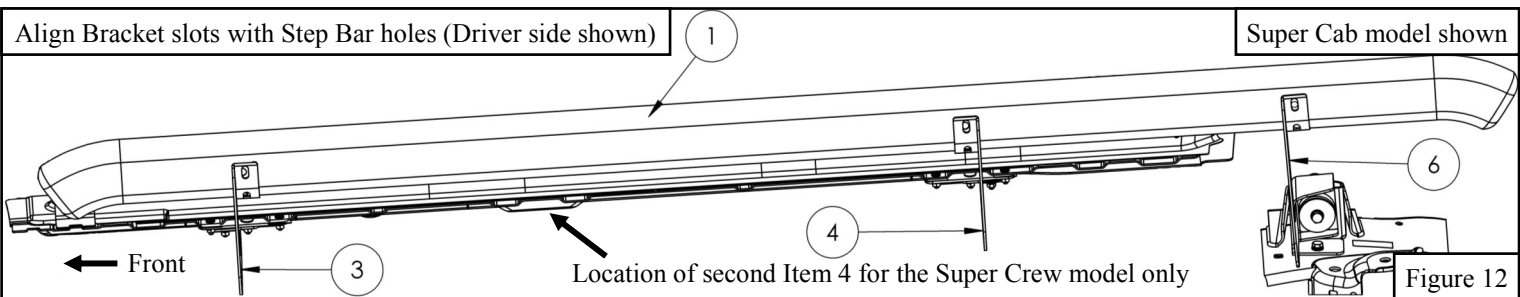

Figure 12
13. Locate the Driver Step Bar Assembly (Item 1) and align it with the brackets. **Note:** Super Cab model will have 3 brackets and Super Crew will have 4 brackets. See **Figures 12 & 13**.